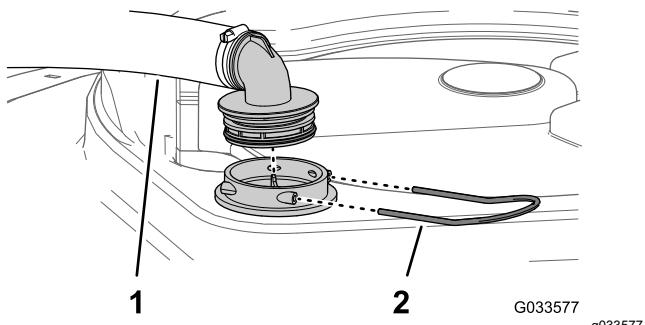

Figure 49
2. At the top of the sprayer tank, remove the retainer that secures the hose fitting attached to the large hose from the filter housing (Figure 49).
3. Remove the hose and hose fitting from the filter housing (Figure 49).